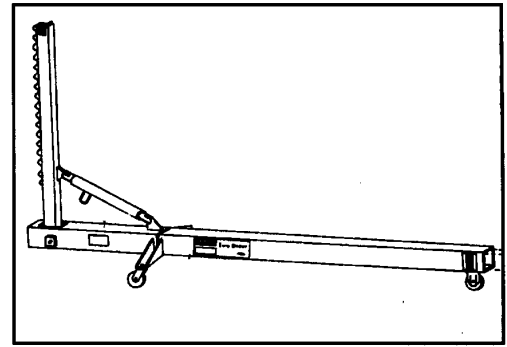

Figure 2
6. To mount the ram (32), fix it to the brackets of the main beam and of the pivot arm with attachment pins (10) and retaining rings (9). (Fig.2)
9. (See Fig.2) Put the anchor post (1) in place on the horizontal beam. Insert the retaining pin (2).